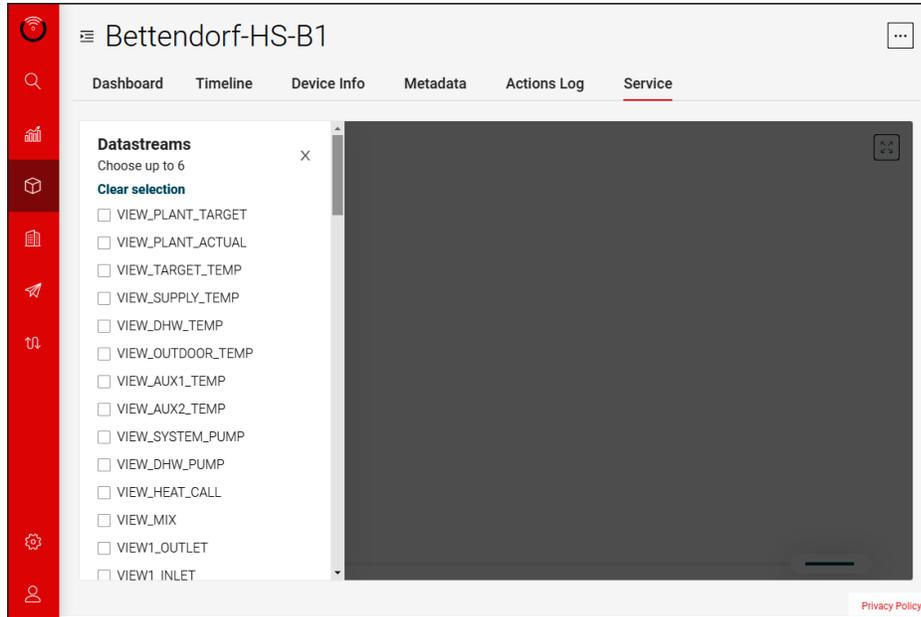

Figure 78. Service Chart
4. Select “Service” from the top menu and the “Service chart” will appear. See **Figure 78**.